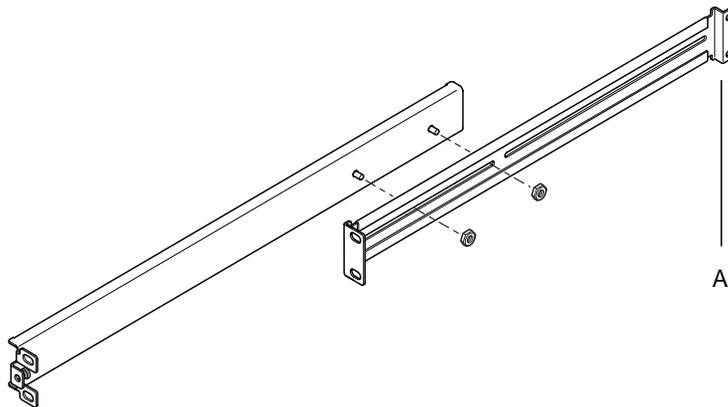

FIGURE 3-2 Slide Mounts for Sun 72-inch Expansion Rack
For the Sun StorEdge 72-inch tall (19-inch wide) rack, the double-angled end (A) must be at the back (see FIGURE 3-2).